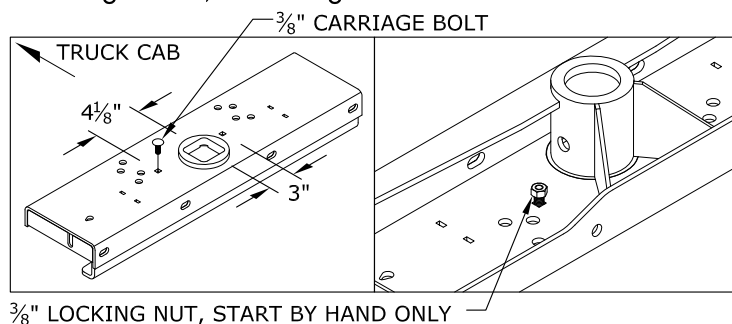

FIGURE B5: Center Section before installation.
- 2A. **Insert carriage bolt.** Install $\frac{3}{8}$ " x 1" long carriage bolt into center section and attach with finish nut as shown in figure B5, Do not tighten nut.